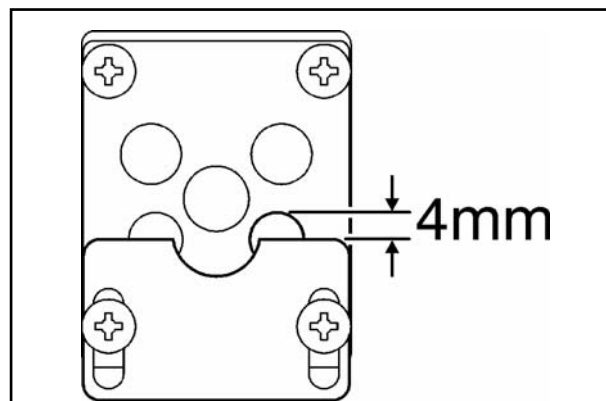

Figure 38. Aeration shutter setting
1. The aeration shutter is factory set and should not require adjustment. If the shutter is not as shown in figure 38 and requires adjustment, loosen the two aeration shutter screws, slide the aeration shutter to the position shown in figure 38 and tighten the fixing screws.